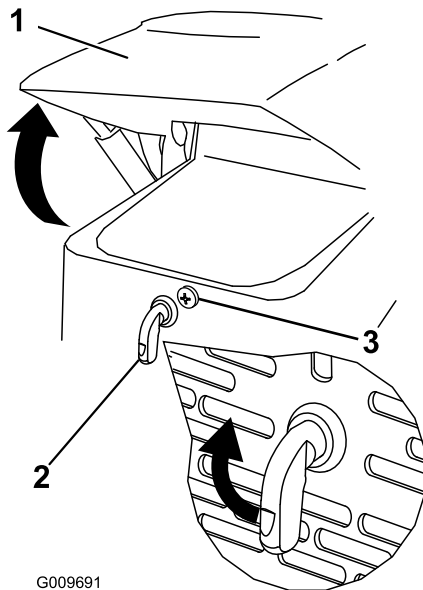

Figure 21
1. Loosen the hood locking screw (Figure 21)
2. Turn the hood latch clockwise (Figure 21).
3. Swing the hood up (Figure 21).
3. Tighten the hood locking screw to secure the latch (Figure 21).